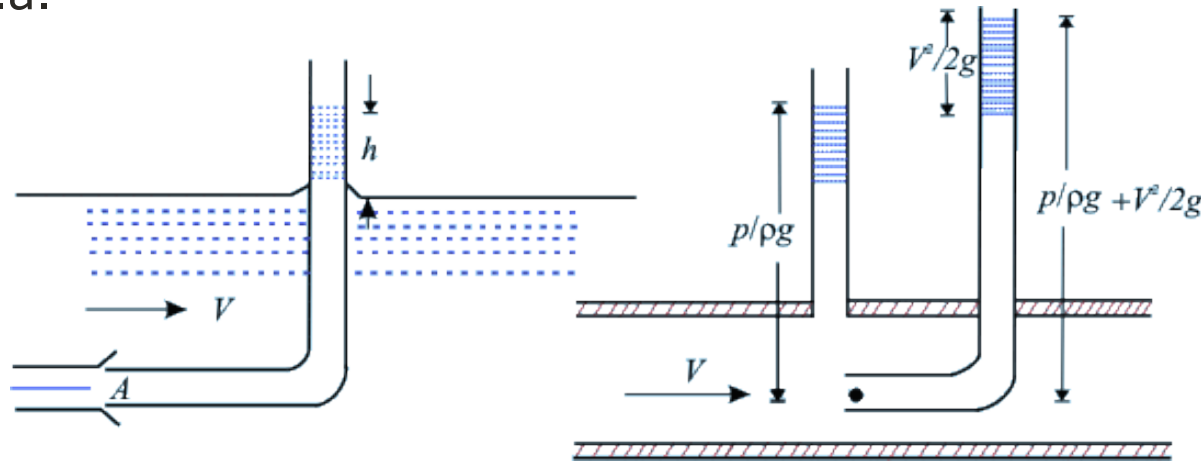
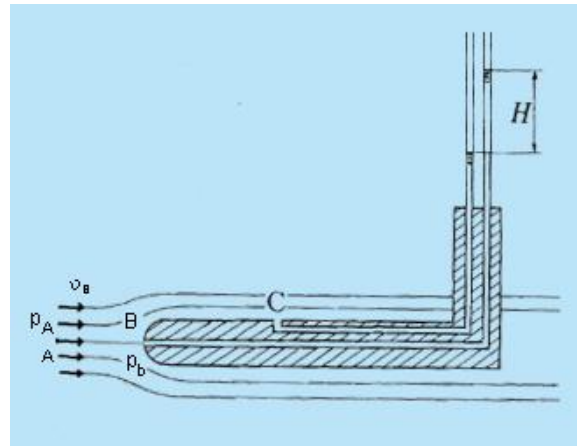

Fig 1. Simple Pitot Tube (a) tube for measuring the Stagnation Pressure; (b) Static and Stagnation tubes together.
Fig. 2. Pitot Static Tube
- **Construction:** The principle of flow measurement by Pitot tube was adopted first by a French Scientist Henri Pitot in 1732 for measuring velocities in the river. A right angled glass tube, large enough for capillary effects to be negligible, is used for the purpose. One end of the tube faces the flow while the other end is open to the atmosphere as shown in Fig. 1.a.
where p_0 , p and V are the stagnation pressure, static pressure and velocity respectively at point A (Fig. 1).
- A Pitot tube is also inserted as shown (Fig. 1.b) to sense the stagnation pressure. **The ends of the Pitot tube, measuring the stagnation pressure, and the piezometric tube, measuring the static pressure,** may be connected to a suitable differential manometer for the determination of flow velocity and hence the flow rate.
The tubes recording static pressure and the stagnation pressure (Fig. 1) are usually combined into one instrument known as Pitot static tube (Fig. 2).